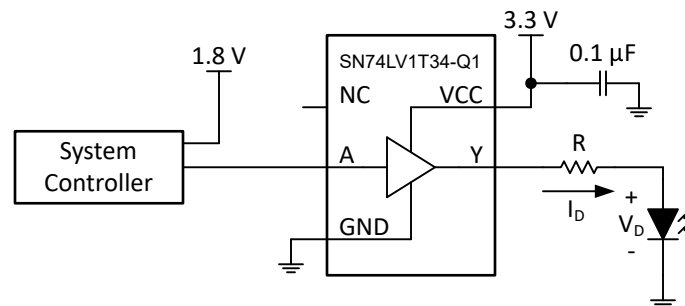

Figure 8-1. Typical Application Block Diagram
Figure 8-1 shows how the SN74LV1T34-Q1 is used to up-translate a 1.8-V signal to 3.3 V to drive an LED in this application. The SN74LV1T34-Q1 does not limit the output current, so an added output resistor is used to provide the appropriate current limiting. The resistor value (R) should be determined by the LED's forward voltage (V_D) and the desired forward current through the LED (I_D) using this equation: $R = (V_{CC} - V_D) / I_D$.